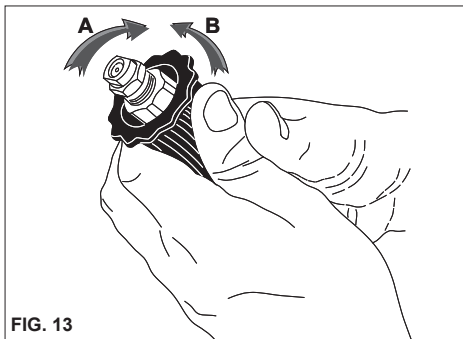

FIG. 13
USING THE ADJUSTABLE HEAD (Fig. 13)
- When the water cleaner is not used, close the safety device on the handle.(fig. 13).